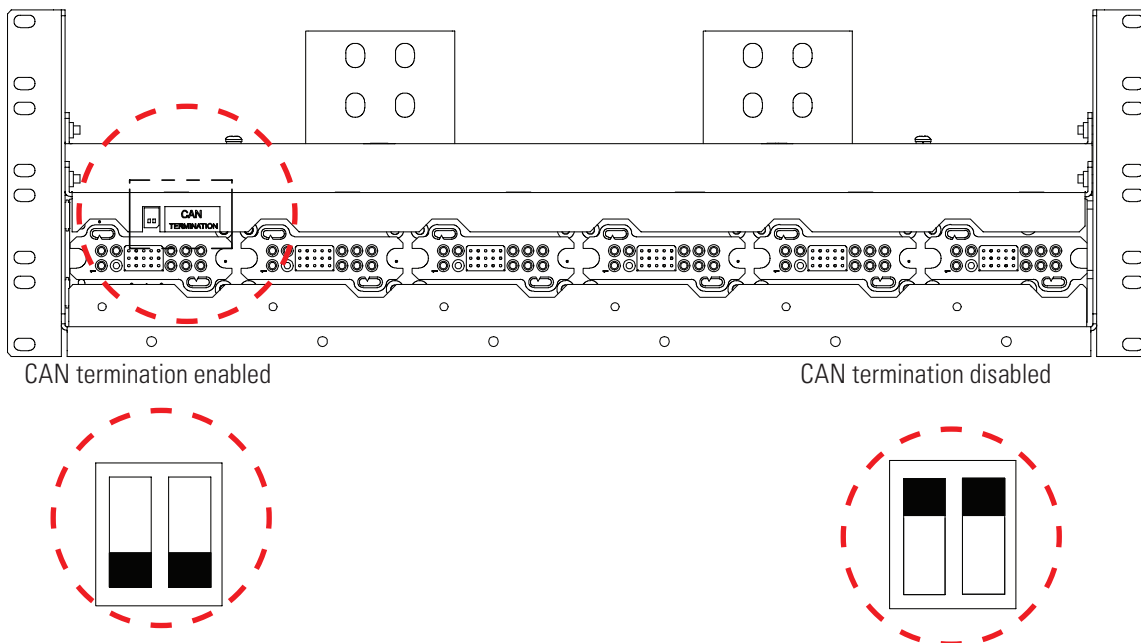

Figure 38: CAN bus termination Cordex® HP 4.0/4.6 kW rectifier shelf
- b. Flip the DIP switches from **Termination Enabled** to **Termination Disabled**; see Figure 38.